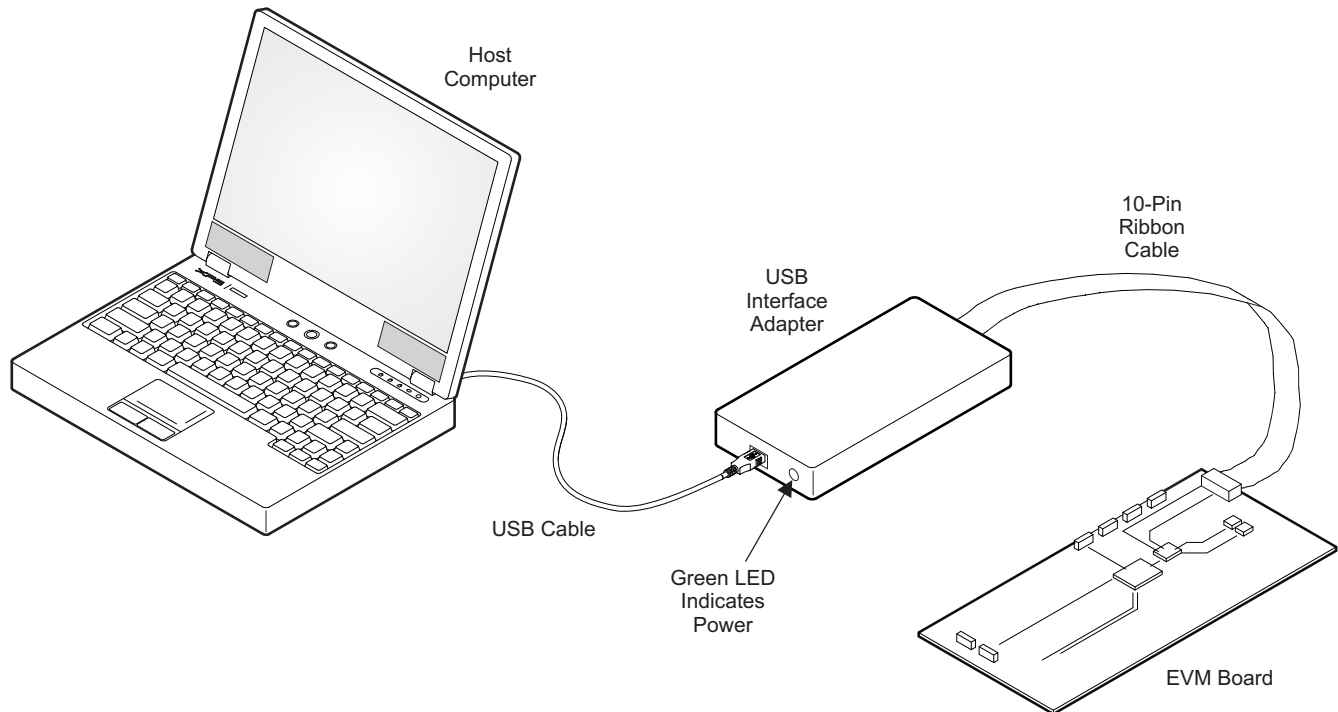

Figure 5-2. USB Interface Adapter Quick Connection Diagram
| Figure 5-2. USB Interface Adapter Quick Connection Diagram..... | 10 |
- Connect one end of the USB-TO-GPIO box to the PC using the USB cable and the other end to JP15 of the TPS65279V using the supplied 10-pin ribbon cable as shown in Figure 5-2. The connectors on the ribbon cable are keyed to prevent incorrect installation.